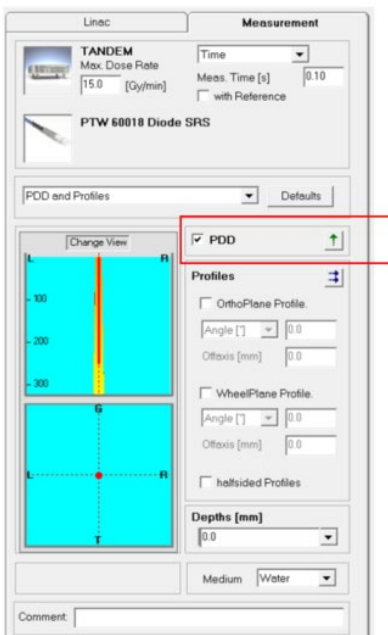

Figure 1-17. PDD Selection
- e. In the Measurement tab, input the information as shown below. Ensure that only PDD is selected and arrow points upward (see Figure 1-17).